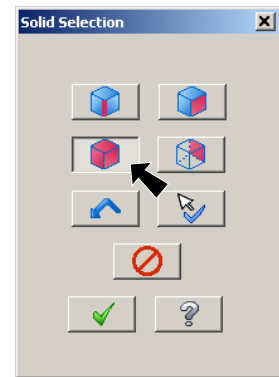

Fig. 24
Step 2. In the Solid Selection dialog box, select **Solid**  and unselect others, **Fig. 24**.